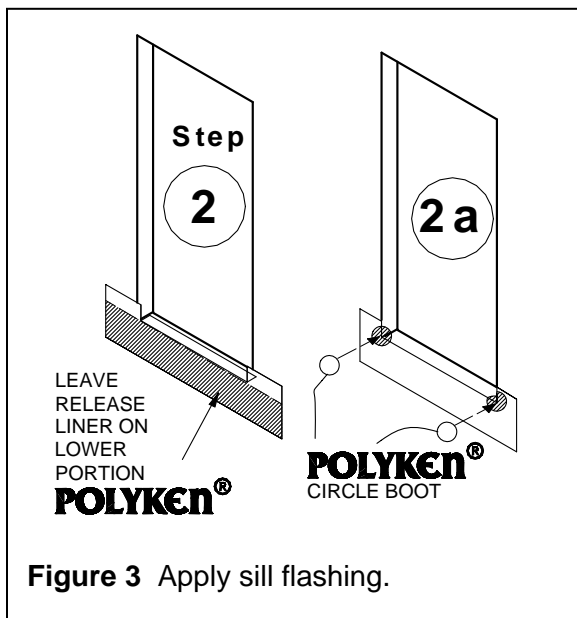

Figure 3 Apply sill flashing.
Score backside of Polyken® or Nashua® sill flashing cutting lightly through release liner a few inches from top edge to act as a substrate adhering edge. Keep bottom portion of release liner on Polyken® or Nashua® sill flashing until removed later. Apply Polyken® or Nashua® sill flashing tape across rough opening sill (Figure 3).
Step 2a. Apply Polyken® or Nashua® sill flashing tape into the threshold opening. Apply Polyken® or Nashua® circle boots at corners of sill-jamb junctures (see Figure 3).